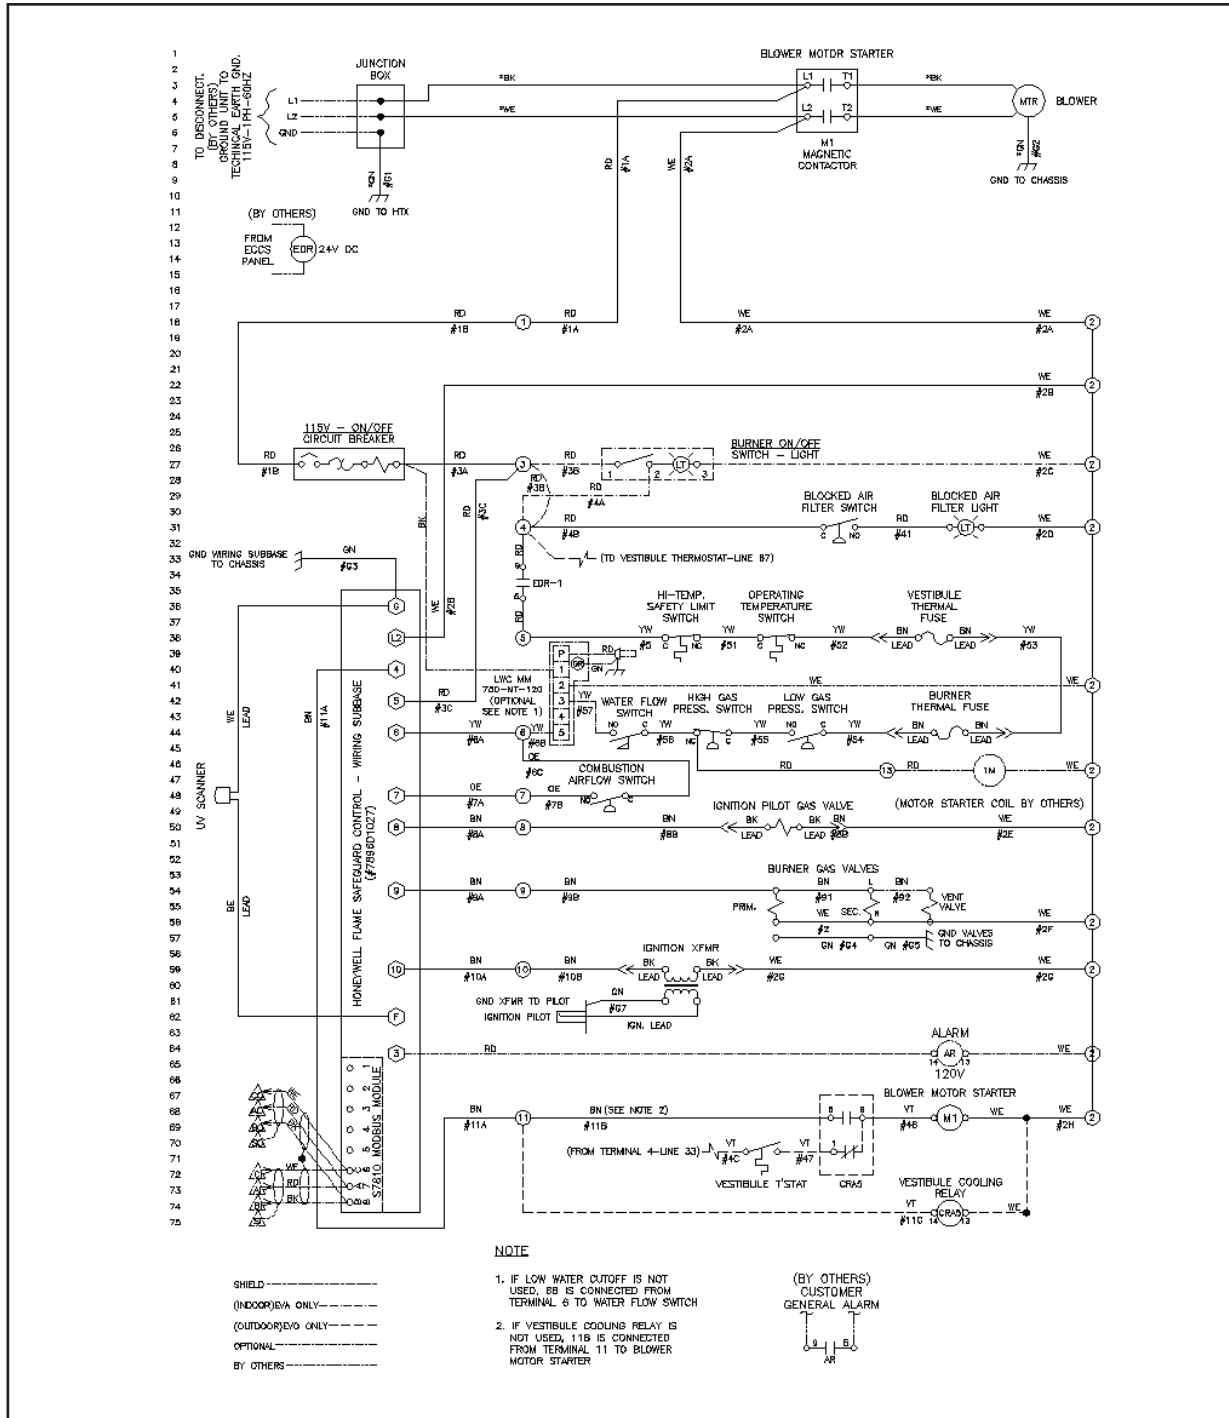

Figure 9a: Standard UL/FM/CSD-1 Wiring Diagram (On/Off)
3. Remove factory supplied jumper wire from terminals 4 and 5. Connect field supplied safety limits or devices (low water cut-off, temperature limit etc.) in series using proper terminals provided in boiler electrical cabinet. Refer to wiring diagram supplied with boiler for wiring information. Refer to Figures 9a, 9b, and 9c, for typical wiring diagrams. Refer to Figure 1, for electrical requirements for